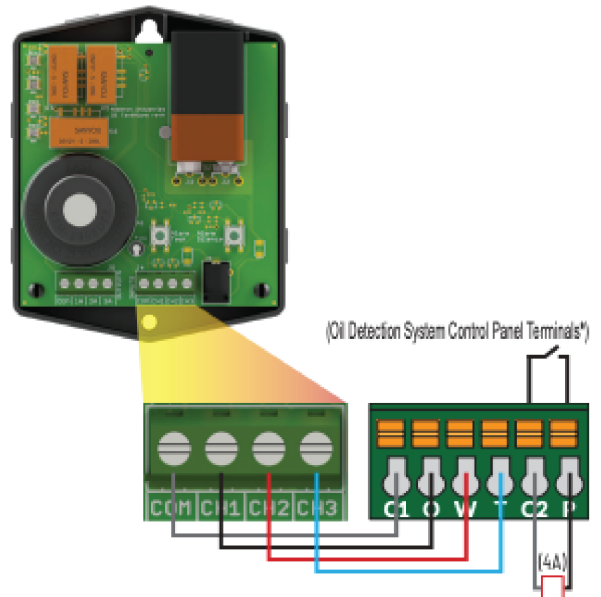

Figure 7
- Connect the Oil Detection System control panel auxiliary contacts (signaling device) to the INPUTS terminal block on the Oil Detection System alarm panel (Fig. 7), use 18 gauge 4-conductor wire. See below for wiring information. The alarm is activated when the auxiliary contacts of the control panel's circuit board are activated indicating an alarm condition has occurred.